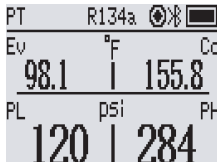

Figure 8 Data record icon
4.Start recording : Click to Recording , the recording icon on the device lights up and starts to flash (Figure 8 ).
① The device can record up to 3000 pieces of data.